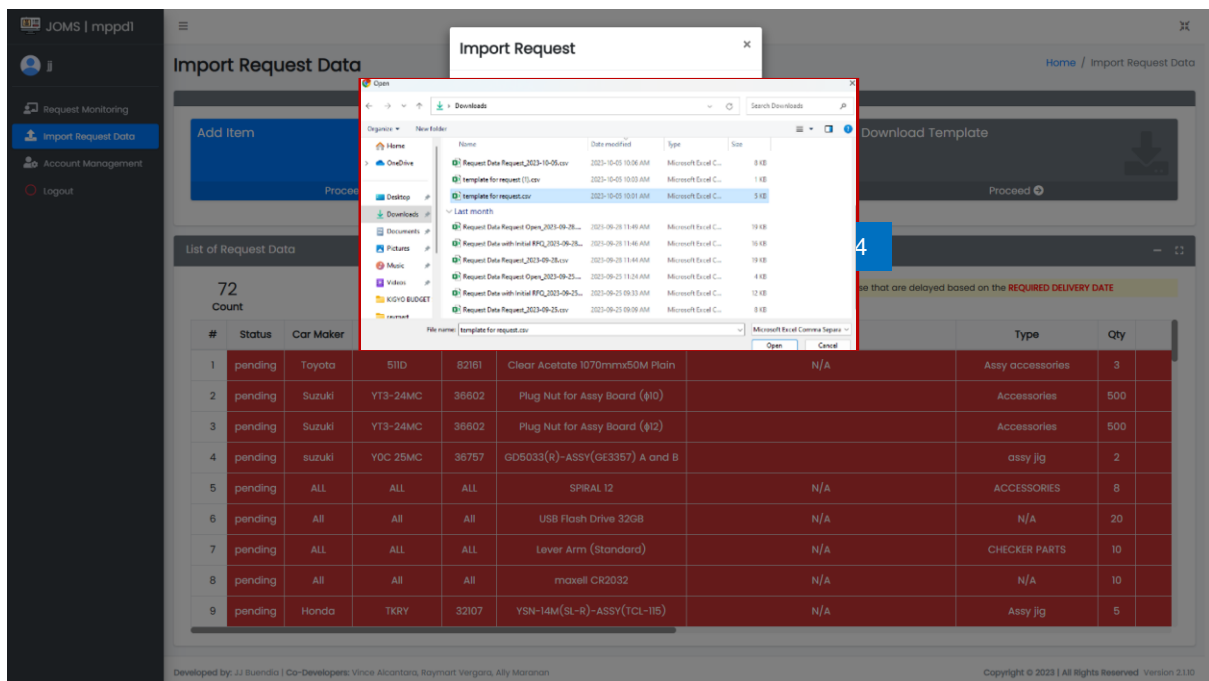

Figure 4. Template for Request
2.4 Import the data using the downloaded template with the encoded request data. Note that incorrect format will result to error. (See Figure 4)